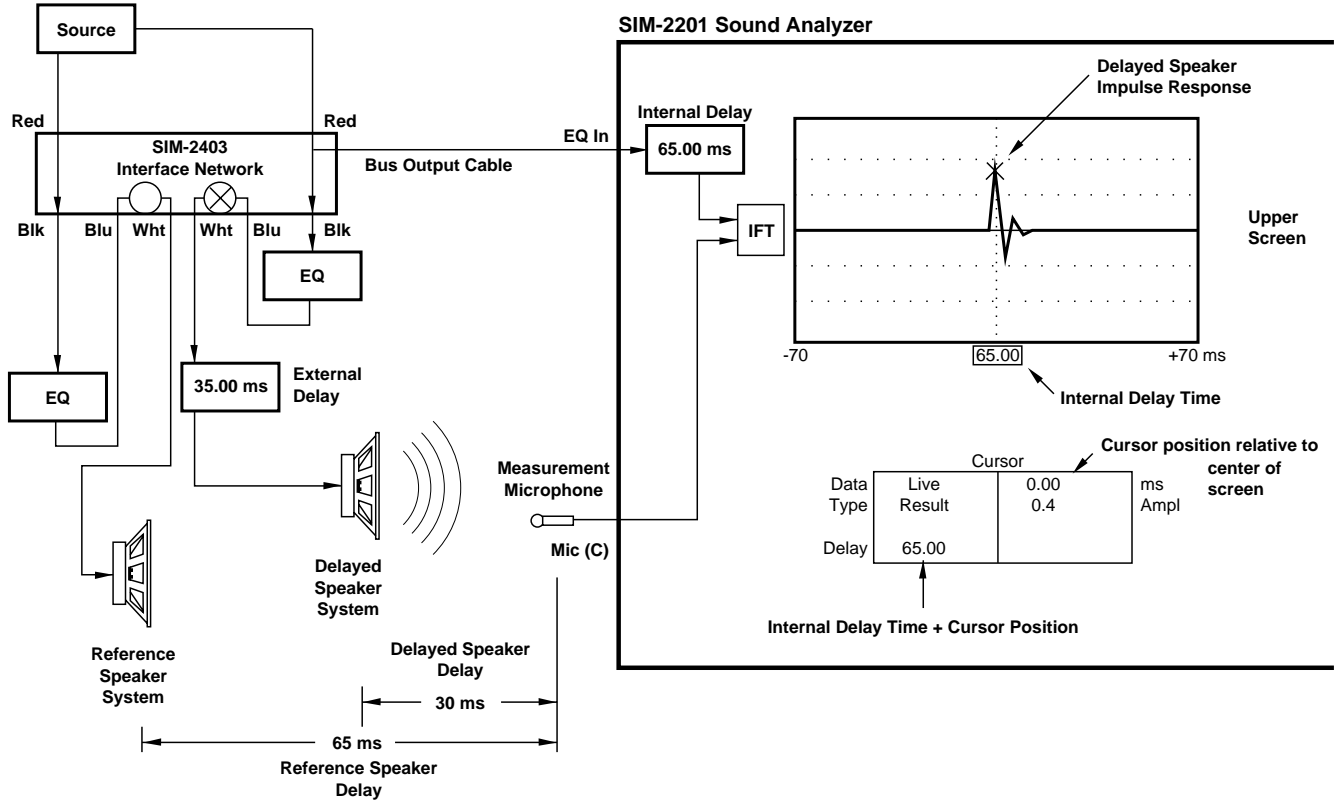

Figure 46c — After Setting the External Delay. The Delay Speaker Impulse Response Peak is Centered.
- 6) When the external delay time is properly set, the Delay speaker impulse response peak will be at the center of the screen, as shown in Figure 46c.